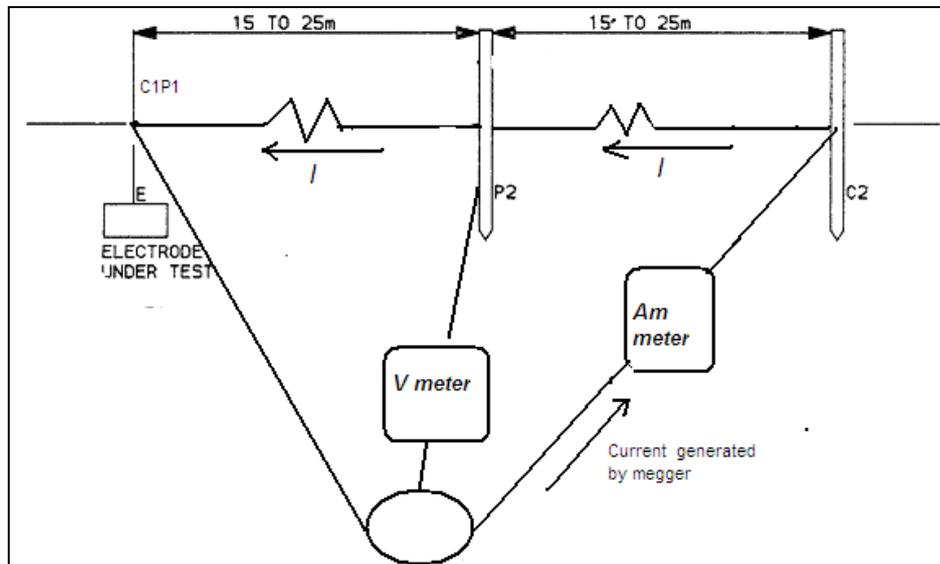

Figure 14.8: Equivalent circuit of earth test procedure.
- Figure 14.8 shows the equivalent circuit for the test: The earth megger generates an alternating voltage which sets up a current (I) flowing from the C2 spike through earth mass to spike C1. The volt drop (V) across the earth resistance from spike P1 to spike P2 is measured by the internal voltmeter and integrated with the current (I) by the principle of Ohm's Law internally by the instrument as demonstrated below.